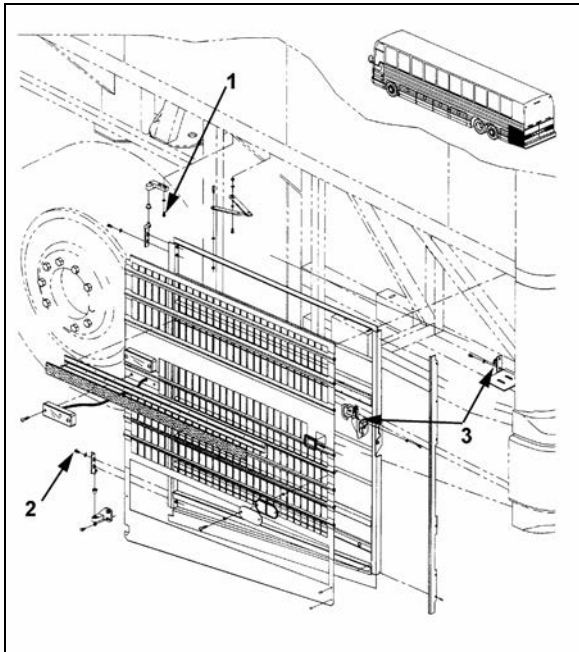

FIGURE 44: RADIATOR DOOR
1. Loosen the bolts, (1, Fig. 44) holding the hinge to the vehicle structure to shift the door "IN or OUT" and "UP or DOWN".
2. Loosening the bolts (2, Fig. 44) allows the door to be shifted "LEFT or RIGHT" and "UP or DOWN".
To adjust the latch mechanism (3, Fig. 44) and the striker pin: